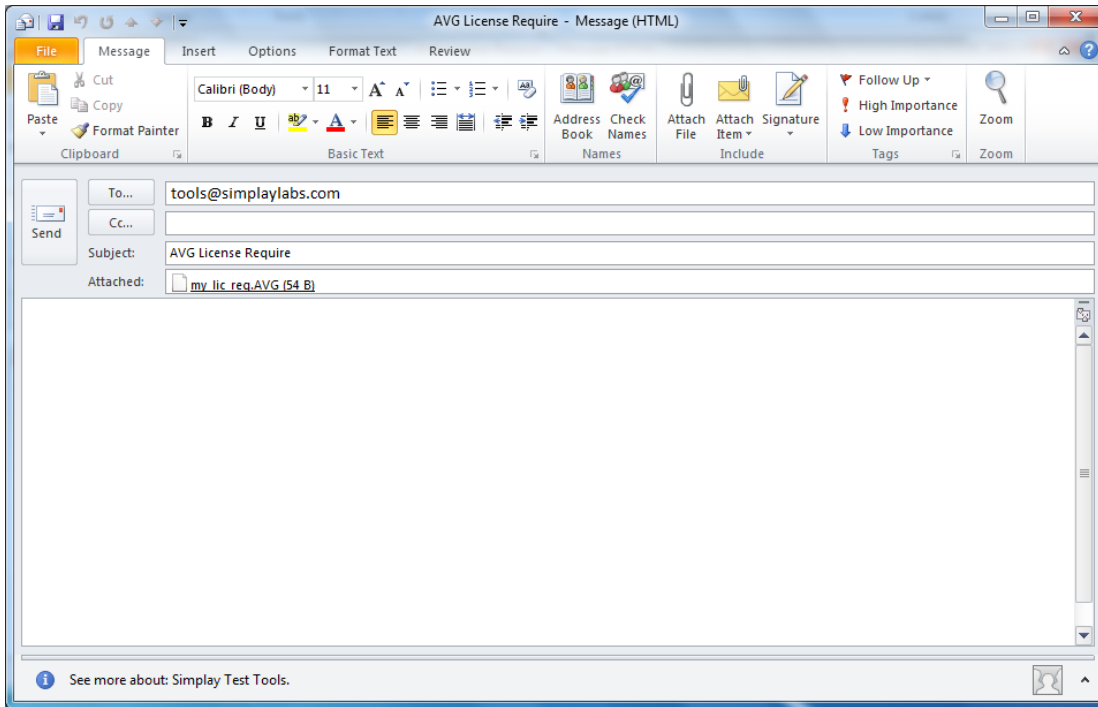

Figure 3.14. License Requirement File to Simplay Labs
10. If you purchased your SL-881 directly from Simplay Labs, click To Simplay Labs. The Windows explorer pops up, pointing you to the license requirement file you previously saved. Then Microsoft Outlook window pops up. Manually attach the license requirement file (\*.avg) which you previously saved to the email (Figure 3.14). Send it to [tools@simplaylabs.com](mailto:tools@simplaylabs.com) to request a license file (\*.lic). Simplay Labs will send the license file back to you.